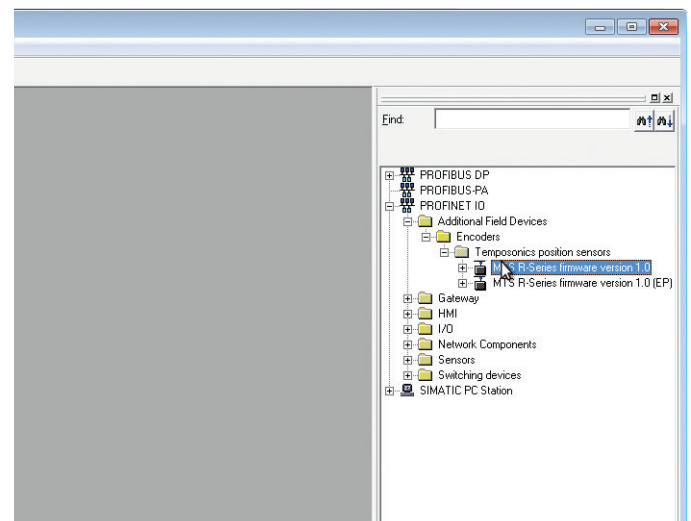

Fig. 35: Select MTS communication protocol (source: Siemens)
- Select the MTS communication protocol from the directory displayed on the right (Fig. 35).